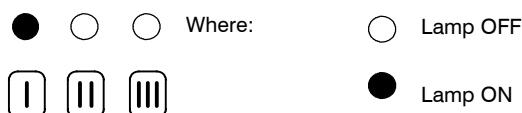

Fig. 44
- 5 The lamps E should give the indication as in Fig. 44. If not, press the reset button repeatedly to obtain it.